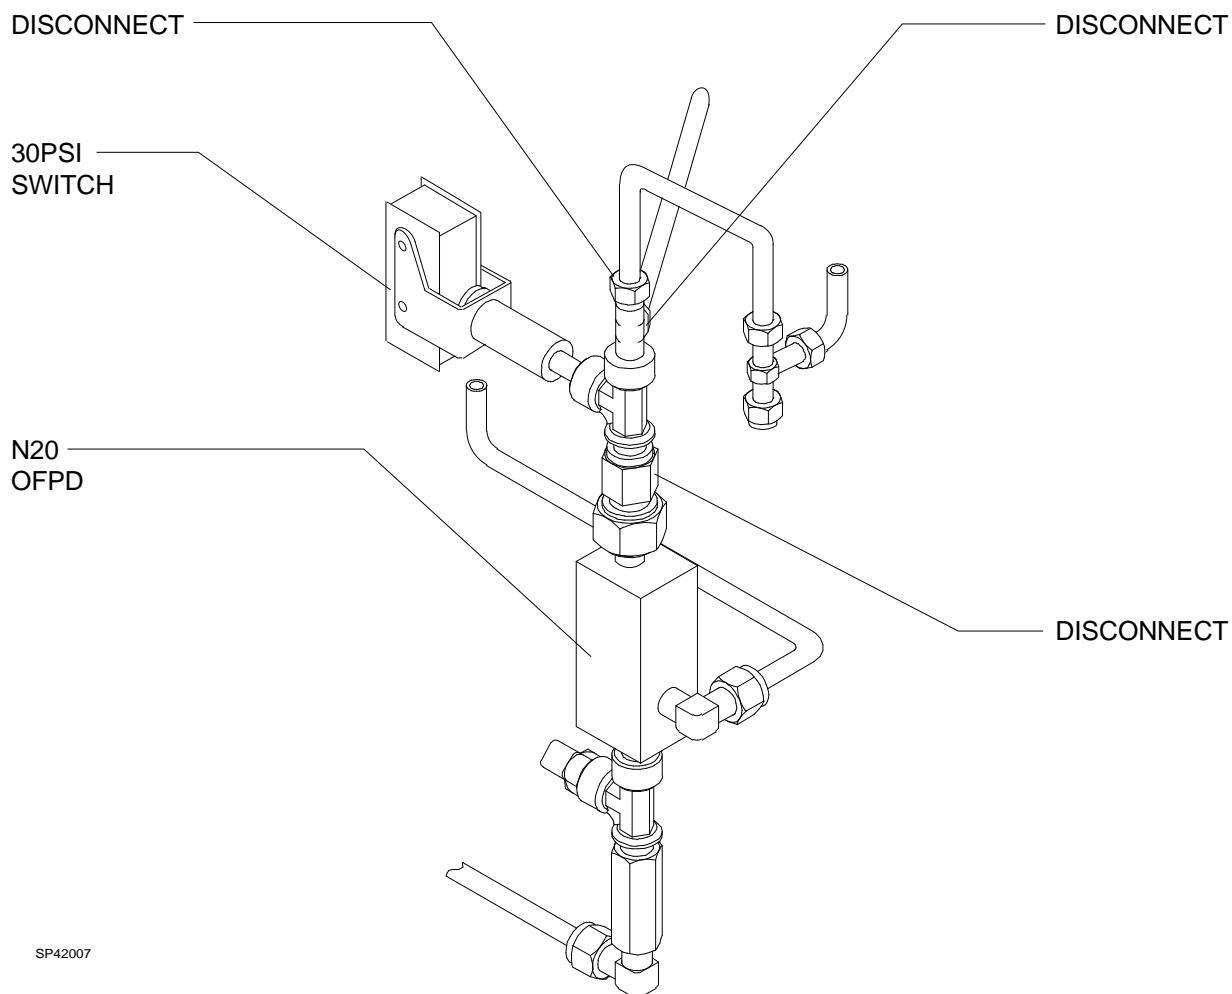

Figure 6: 30 PSI SWITCH REMOVAL
32. Remove the three wires connected to the 30 PSI switch, and remove the switch assembly by disconnecting the fittings indicated in Figure 6.